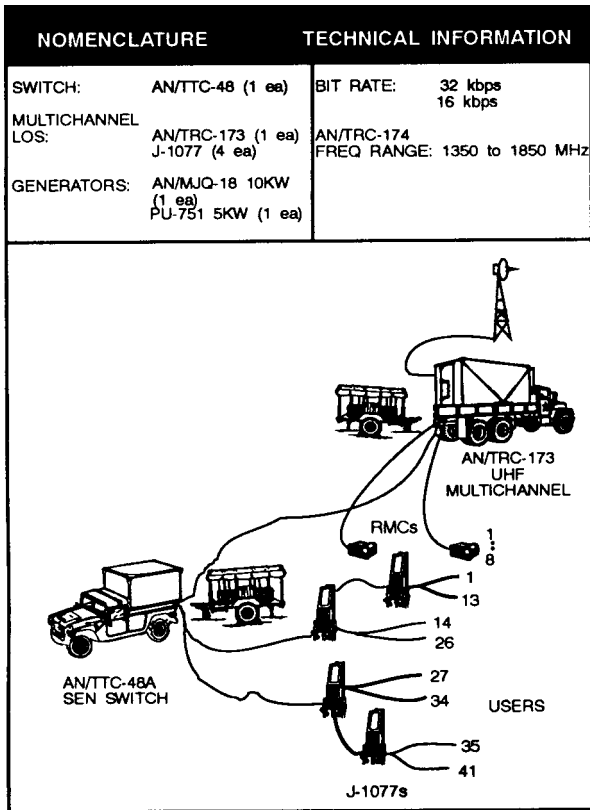

Figure 3-27. Typical TRI-TAC extension node.
**Function.** The TRI-TAC extension nodes consist of an AN/TTC-48A switch and a single multichannel link. They service smaller units requiring access to the theater area communications system. The extension node provides automatic circuit switching, terminations for up to 41 subscribers, and has an NRI for CNR users. RAU coverage gives users with MSRTs access to the theater area communications system. See Figure 3-27.
**Interconnectivity.** The SEN connects with the area node through a single UHF multichannel link to a radio terminal assemblage, AN/TRC-173. The MSE SEN switch, AN/TTC-48A, performs circuit switching and connects to the J-1077s. Users install field wire from their telephones to the J-1077s. Users can also install telephones by using RMCs. They connect to the AN/TRC-173's group modem (GM) by cable.